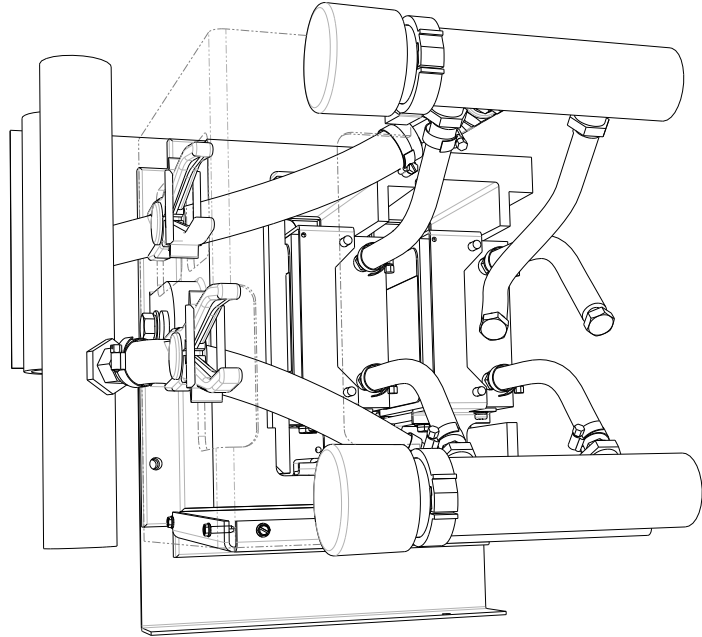

Figure 4.29 – Converter PowerCage Module (Service – per Step 8)
- Per Figure 4.29, insert the hose plug on the hose barb of the upper manifold. Insert a M10 bolt in the end of the chillblock hose. Note that there may still be limited fluid leakage during this procedure.